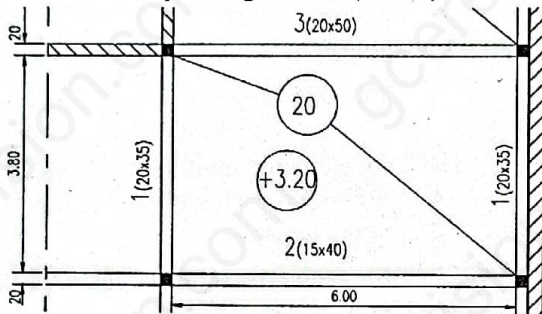

Figure 10
45. On a formwork plan Figure 10, 2(15x40) means